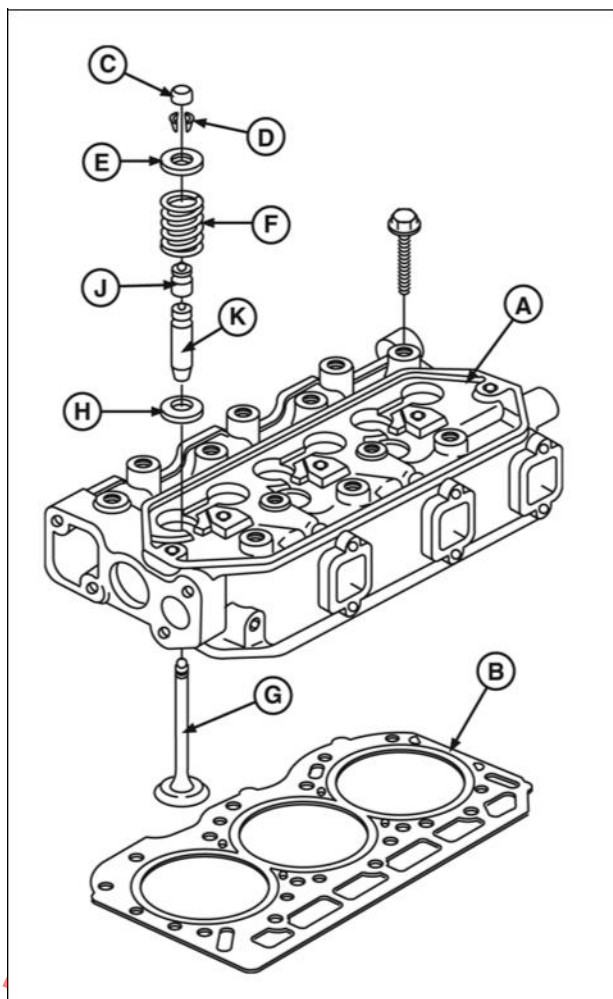

Figure 9
2. Refer to the following cylinder head components (Figure 9) when proceeding to the next part of the disassembly process:
- (A) - Cylinder Head Assembly
- (B) - Cylinder Head Gasket
- (C) - Valve Stem Cap
- (D) - Valve Spring Retainer Locks
- (E) - Valve Spring Retainer
- (F) - Valve Spring
- (G) - Valve
- (H) - Valve Spring Seat
- (J) - Valve Stem Seal
- (K) - Valve Guide